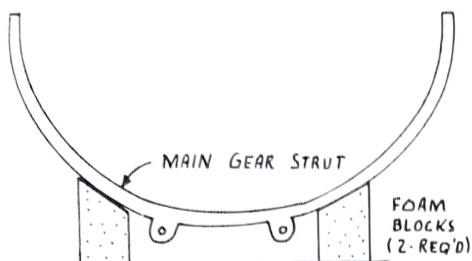

FIG. 12
- 14) Now turn the gear leg upside down and support it well on two foam blocks, 3 feet apart (Fig.12). Thoroughly sand the main gear leg using 36 grit where the glass tabs will go, and sand (hard block) a good smooth transition from the plywood jig blocks to the glass gear leg. Stick grey duct tape on the plywood jig blocks for good release (Fig.13) (make sure the holes are covered). You are now ready to layup the glass tabs.